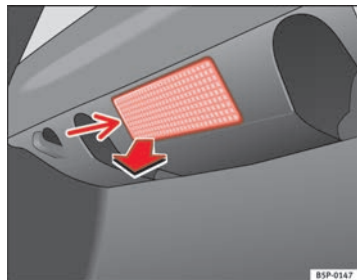

Fig. 149 Luggage compartment light
- Extract the tulip shaped fitting by pressing on the inside edge of this -arrow- using the flat side of a screwdriver ⇒ fig. 149.